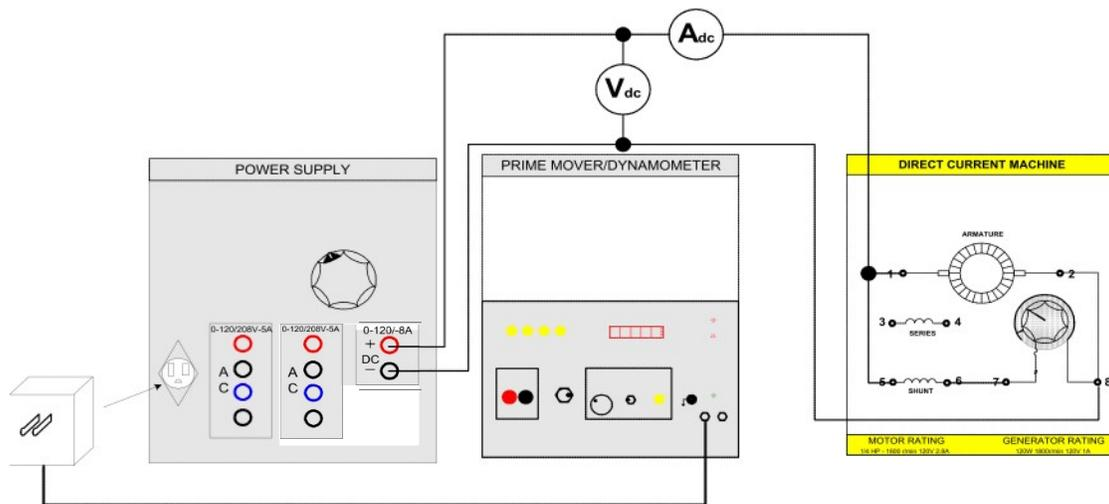

FIGURE 11.8
Step 1: Using your EMS Power Supply, DC Motor/ Generator, the Data Acquisition Interface (DAI) modules in the EMS workstation and Electrodynamometer Modules, connect the circuit shown in Figure 11.8.